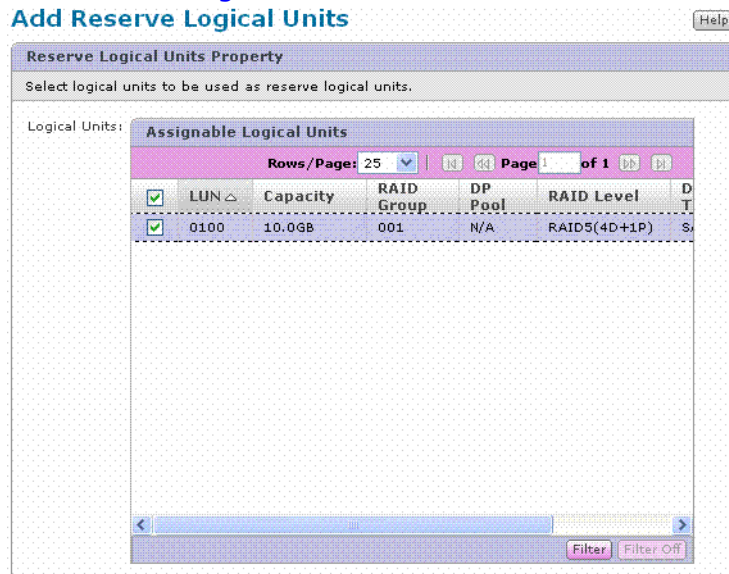

Figure 11-12: Add Reserve Logical Units panel
- Click **Add Reserve LUs**. The **Add Reserve Logical Units** panel displays as shown in Figure 11-12.